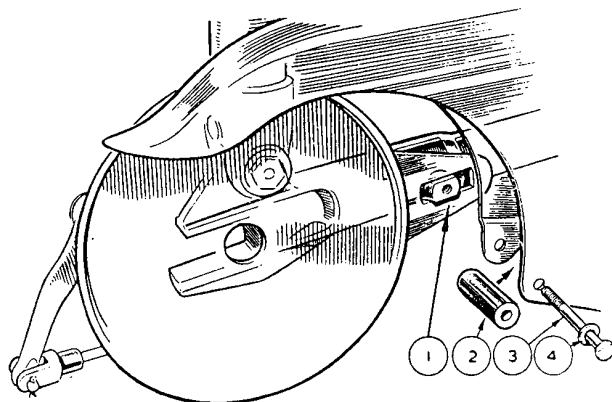

FIG. 77. THE REAR BRAKE COVER-PLATE ANCHORAGE (1955-7, SPRING-FRAME MODELS)
KEY TO FIG. 77
When replacing the rear wheel, make sure that the speedometer-drive dogs engage properly before tightening the cable gland-nut (5). Defer tightening the nut (8) locating the speedometer-drive gearbox (4) until the driving cable has been connected up, and the hub-spindle nut (11) has been tightened. Also make sure that the brake cover-plate anchorage is correct (See Fig. 77).